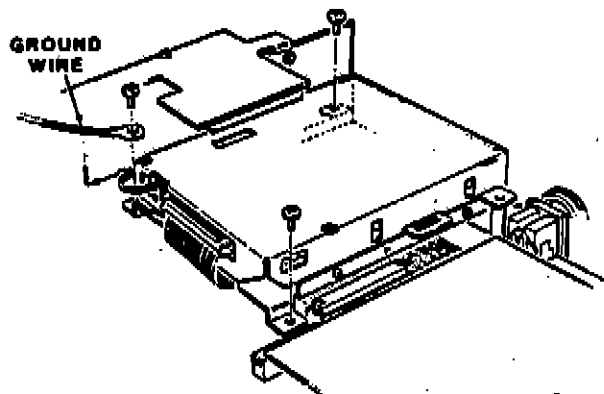

Figure 3-10. Floppy Drive A Screws
Refer to Figures 3-10 and 3-11 for the following steps.
2. Remove the three screws from the drive A mounting holes, as shown in Figure 3-10. Set the screws aside.